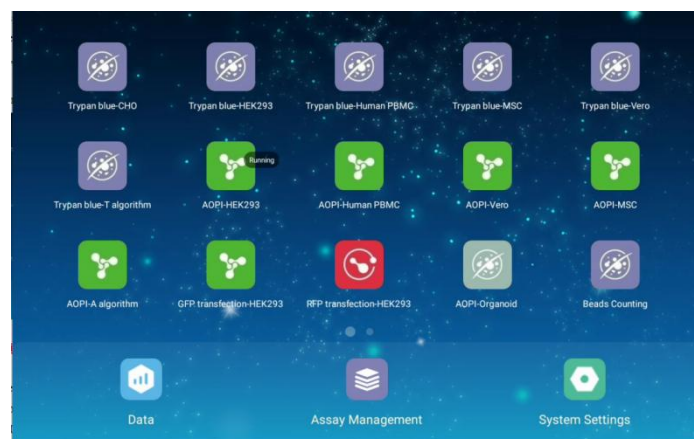

Fig. 2.19 Displayed dialogue box, when clicking on the "Return (<)" key
2.3.7 When the user clicks on the "Return" (<) key at the upper left during a sample measurement process, a prompt appears with the note: "Please wait for the current process to be completed before returning to the main menu" (see **Fig. 2.19**). Once the running test is completed, the user has the option to view the images and result data, or to switch to another user interface. The pop-up window will not affect the progress of the currently running experiment. The process will be completed in the background of the system.